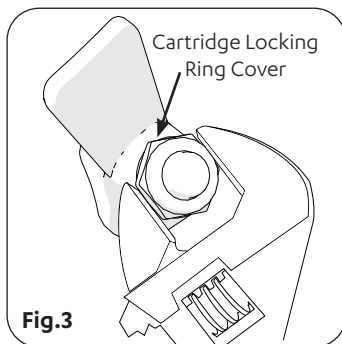

Fig.3
- Use an adjustable shifter to remove the Cartridge Locking Ring Cover. Remove the Bubbler Operating Button (see Fig.3 & 4).
1. Turn off the water supply and use an adjustable shifter to remove the Cartridge Locking Ring Cover from around the Bubbler Operating Button (Fig.3).